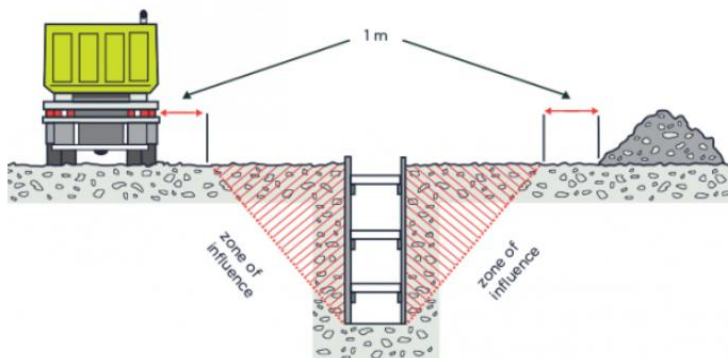

Figure 4. Spoil pile from zone of influence
- Store spoil away from the excavation's zone of influence plus 1 m. See Figure 4 below.